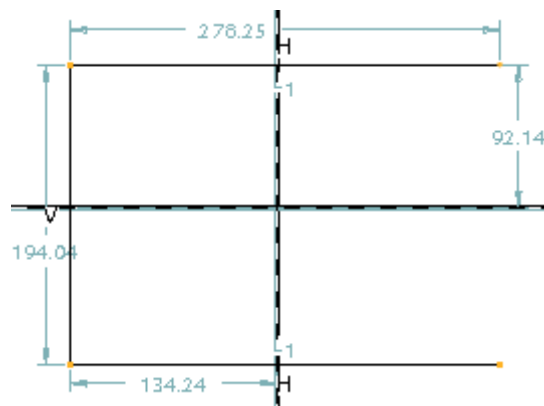

Figure 3-43 Outer loop of the sketch with weak dimensions
- Draw the sketch using the sketching tools and apply constraints and dimensions, refer to Figures 3-43 through 3-47
4. Select the right vertical line; the line turns red in color. Press DELETE to delete it. The sketch after deleting the vertical line is shown in Figure 3-43.